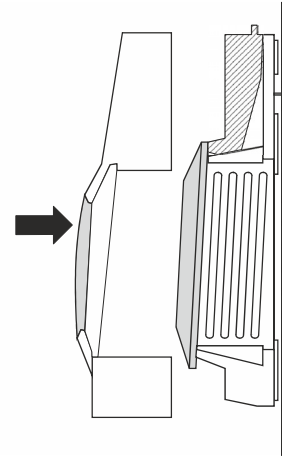

Fig. 5. Mounting cover of T7460 wall modules
The wall modules can be mounted on a 60-mm wall outlet box using No. 6 (3.5-mm) screws or on a wall (see Fig. 2 and Fig. 5). When mounting directly on a wall, use the type of screws appropriate for the wall material.
8. Remount the cover as depicted in Fig. 5 and make sure that the tab on the underside engages.